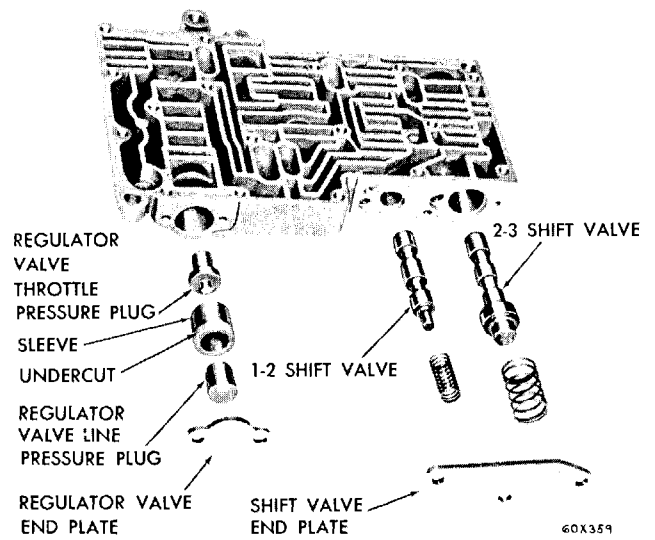

Fig. 39—Valve Body — Shift Valve Side (Exploded View)
(16) Remove shift valve end plate (Fig. 39) and slide out the two springs and valves.
(17) Remove the regulator valve end plate. Slide regulator valve line pressure plug, sleeve, and the regulator valve throttle pressure plug out of the valve body.
(5) Install the 1-2 and 2-3 shift valves and springs (Fig. 39). Install shift valve end plate and tighten the three retaining screws to 25 inch-pounds torque.
(6) Install regulator valve throttle pressure plug, sleeve (under cut on sleeve toward end plate), and line pressure plug (Fig. 39). Install regulator valve end plate and tighten the two retaining screws to 25 inch-pounds torque.